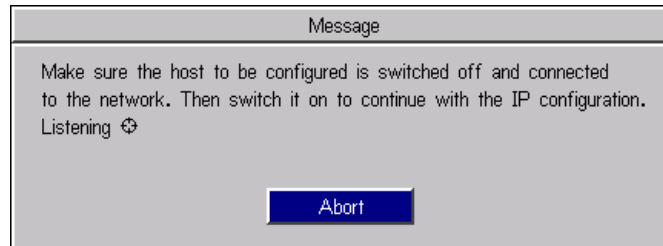

Figure 2-7: IP Configuration Message Box
- 10 Click OK. The message box shown Figure 2-7 appears.